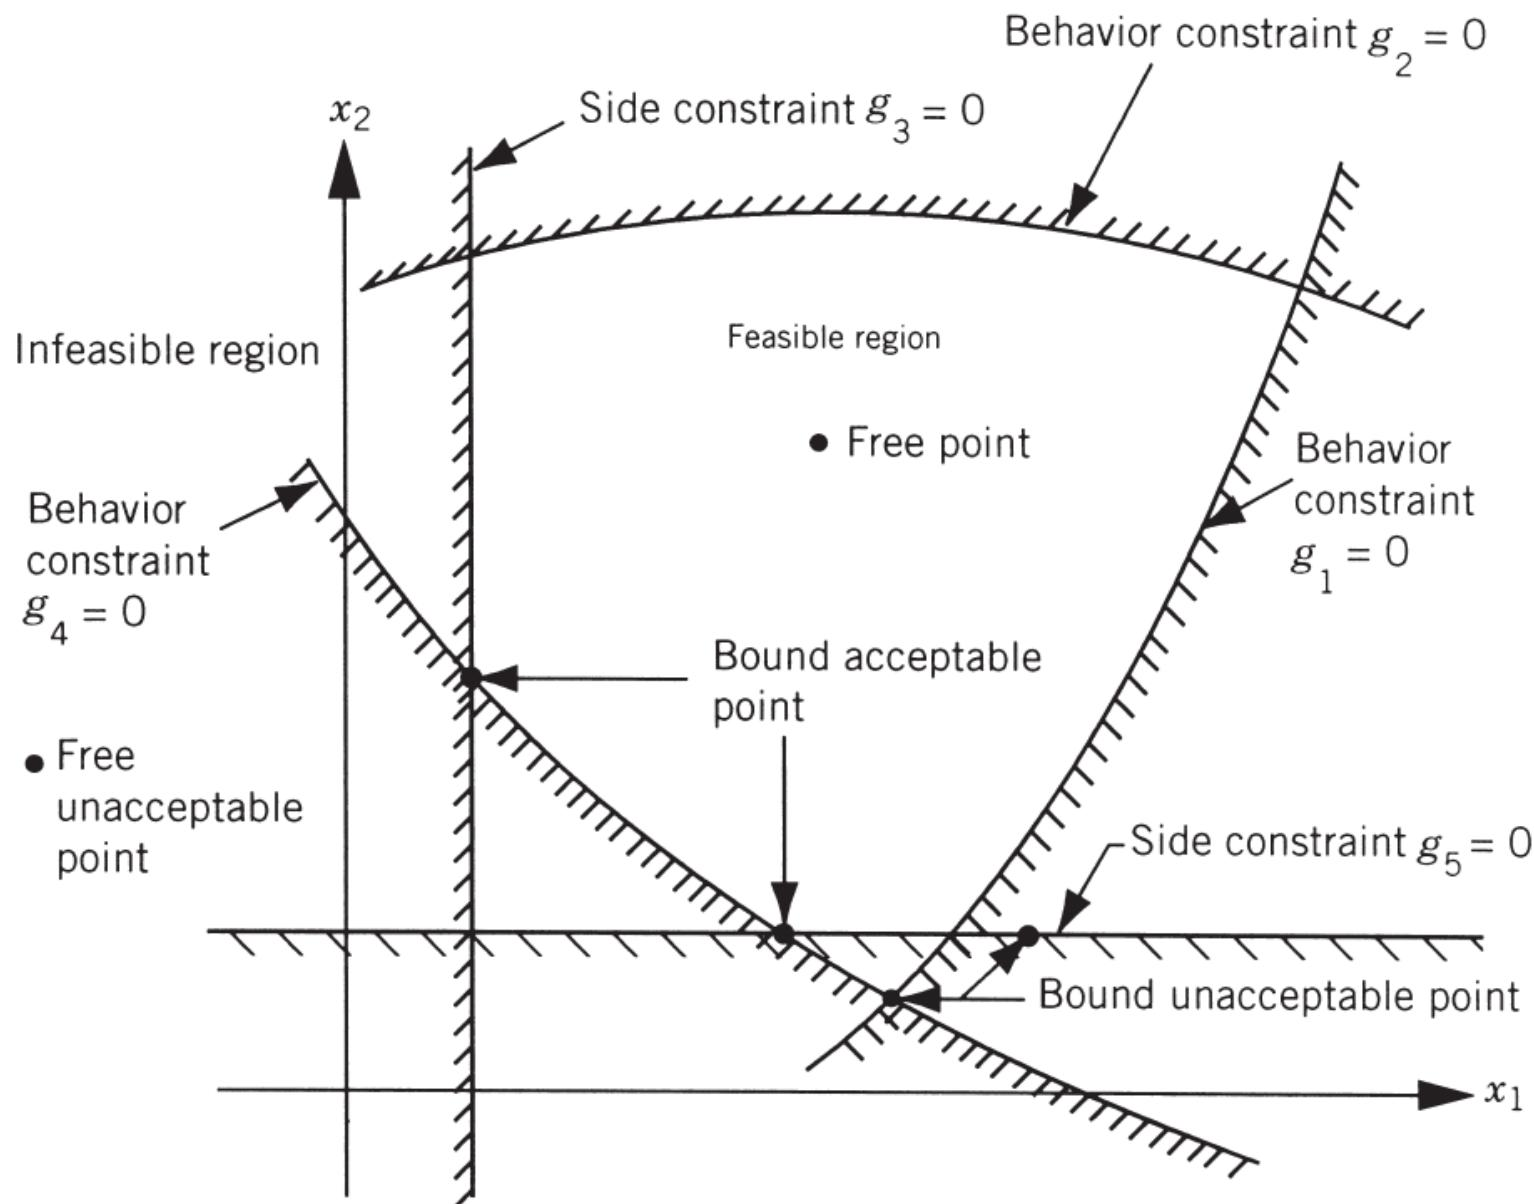

Figure 1.4 Constraint surfaces in a hypothetical two-dimensional design space.
- Figure 1.4 shows a hypothetical two-dimensional design space where the infeasible region is indicated by hatched lines.
- All four types of points are shown in Fig. 1.4.**